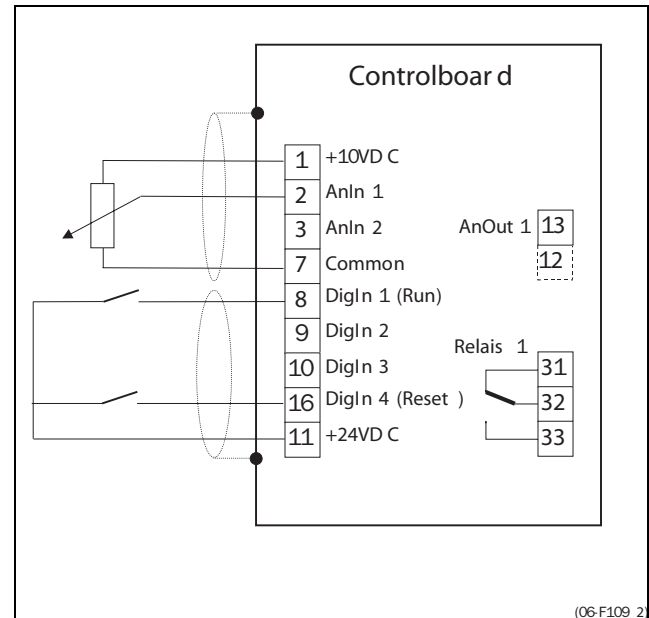

Fig. 2 Minimum control wiring.
- To run the motor, there must be a reference value and a start command present. See also Fig. 2.
Fig. 2 shows the minimum control wiring needed to get started. The input AnIn1 is used with a 2 k Ω potentiometer. A Run command can be given on inputs (DigIn1) to start the inverter. The potentiometer will work as a Frequency Reference (default).